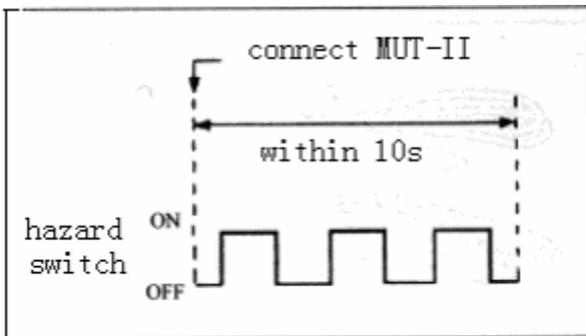

Fig. 20-131
4. After connec the MUT-II, please press hazard switch six times in ten seconds. as Fig 20-131